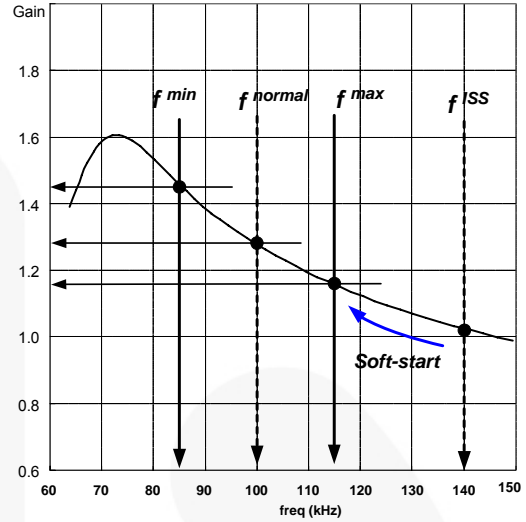
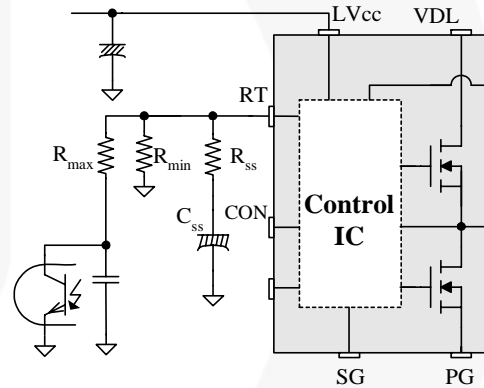
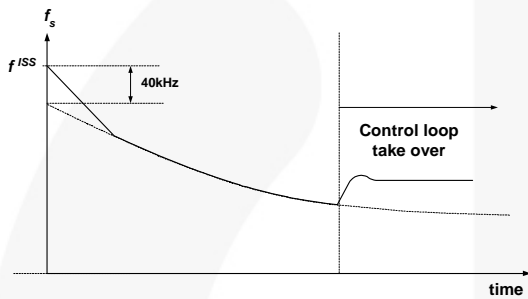

Figure 18. Resonant Converter Typical Gain Curve
Figure 19. Frequency Control Circuit
Figure 20. Frequency Sweeping of Soft-Start
3. Frequency Setting: Figure 18 shows the typical voltage gain curve of a resonant converter, where the gain is inversely proportional to the switching frequency in the ZVS region. The output voltage can be regulated by modulating the switching frequency. Figure 19 shows the typical circuit configuration for R_T pin, where the opto-coupler transistor is connected to the R_T pin to modulate the switching frequency.
in Figure 19. FSFR-series also has an internal soft-start for 3ms to reduce the current overshoot during the initial cycles, which adds 40kHz to the initial frequency of the external soft-start circuit, as shown in Figure 20. The initial frequency of the soft-start is given as: